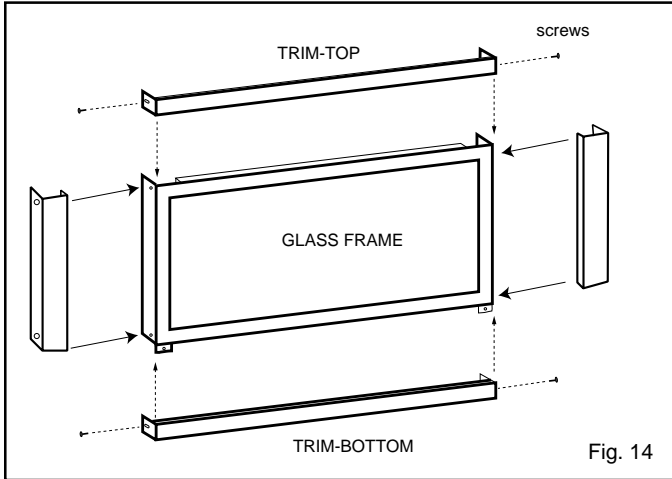

Fig. 14
2. Install support window trim channel, top and bottom brass trim by using the shortest black screw. (Fig. 14 & 15).